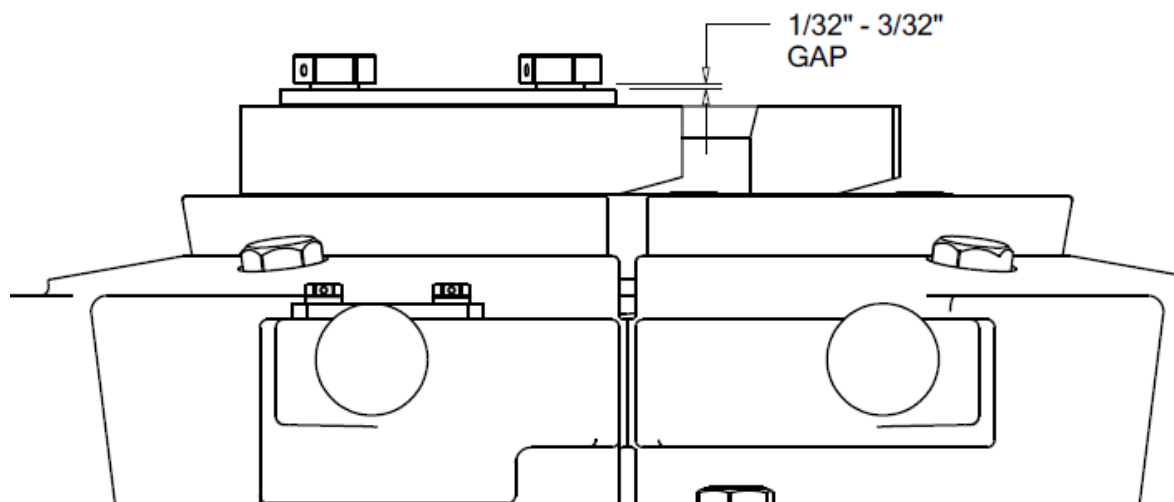

Figure 2
- ▶ Make sure the proper size of inserts are loaded into the slip segments, followed by the insert spacers, and then place an insert retainer plate into each slip. **(See figure 2)**
- ▶ Tighten all insert retainer screws. Then tighten the setting plate bolts to the torque value of a minimum of **18 ft-lb.** & maximum of **20 ft-lb.** ensuring there is a **1/32" to 3/32" gap** between the underside of the bolt head and the washer or setting plate retainer. (See Figure 2)